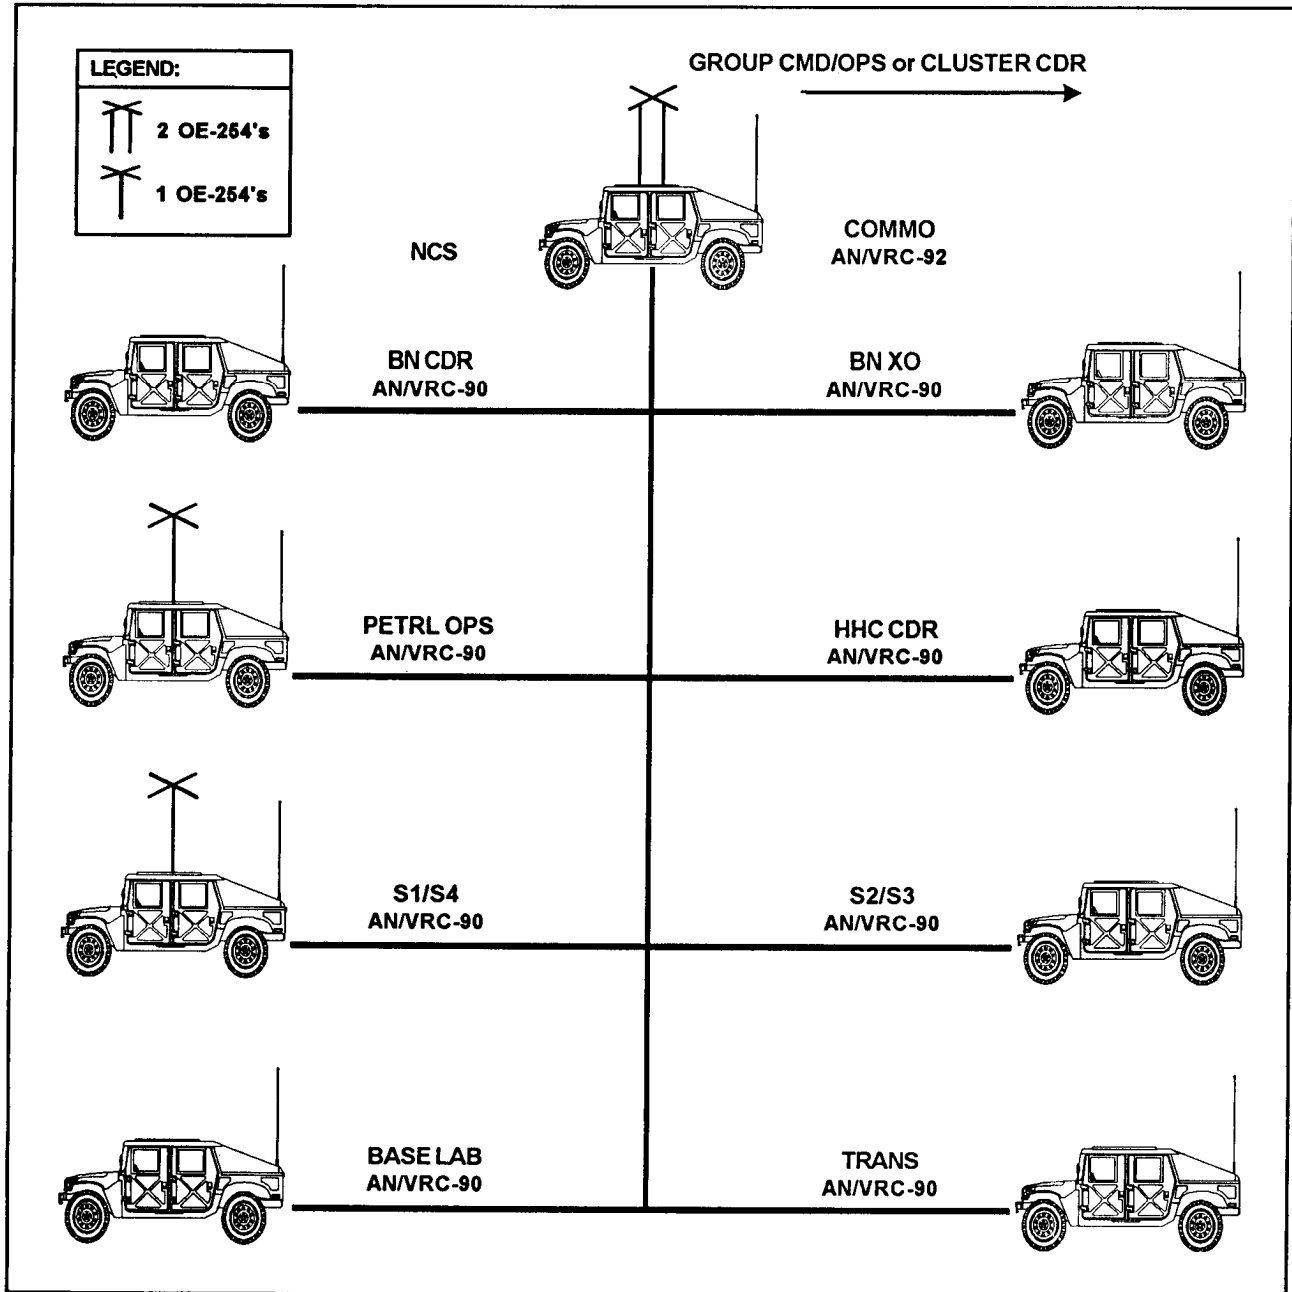

Figure 4-2. Petroleum group command/ops net (SINCGARS)
- SINCGARS. The unit is equipped with the AN/VRC-90 SINCGARS FM radios as shown in figure 4-2. SINCGARS is a new family of VHF-FM radios that replace the old FM AN/VRC-12 series of radios. These radios provide the battalion with a tactical secure FM radio net for internal command and control and external base cluster defense coordination. These radios feature simple, quick operation using a 16 element keypad for push-button tuning. They are capable of short-long range operation for voice or digital data communications. The planning range is 8-35 kilometers. They operate in a jam-resistant, frequency-hopping mode that can be changed as needed. The NCS utilizes the AN/VRC-92 radio that is a dual long range system also capable of operating as a retrans system as mission dictates.